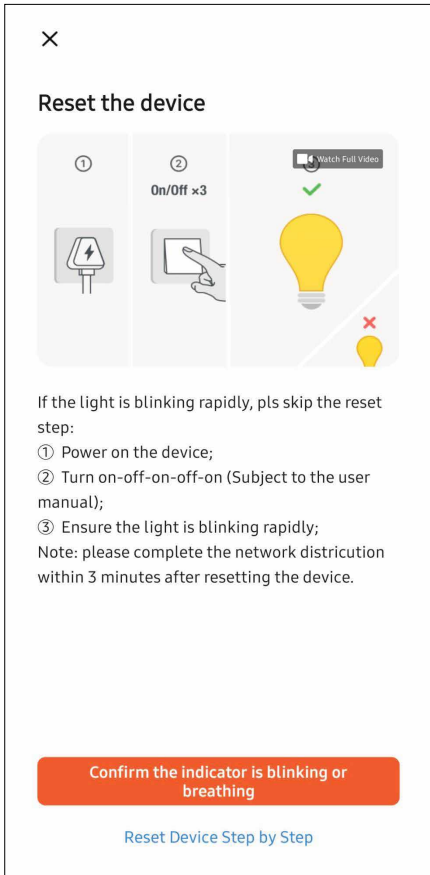

Figure 16
- 6 Once on the reset device page, do not select confirm as of yet. turn off the wall switch for the fan for at least 5 seconds and turn back on. Immediately after turning wall switch on and hearing single beep. Grab the remote and hold the '6H' button for 5 seconds or until you hear a long beep. A few seconds later, the fan will begin constantly beeping. Once you hear this, press the confirm button below. (Fig.16)